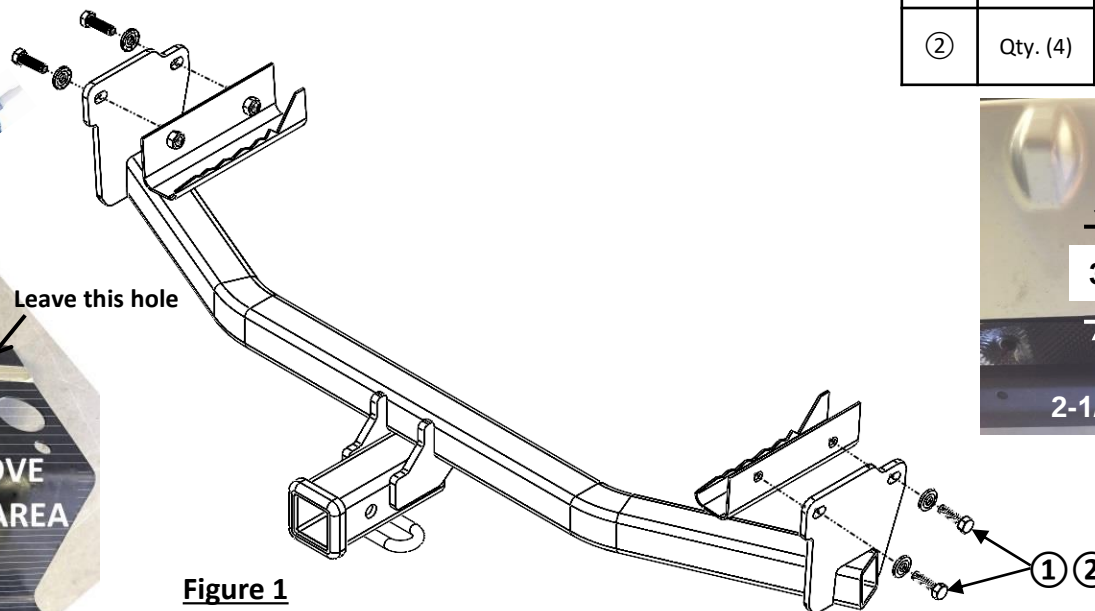

Figure 1
- 5. Install hitch:** Apply blue thread locker to M10 bolt threads. Raise hitch into position and loosely install M10 bolt ① and 3/8" conical washer ② into weldnuts, see **Figure 1**.